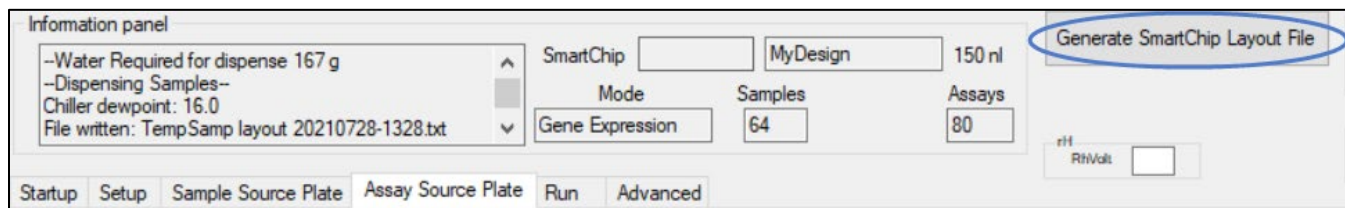

Figure 38. Generating a SmartChip Layout file.
1. Click the [Generate SmartChip Layout File] button (Figure 38).